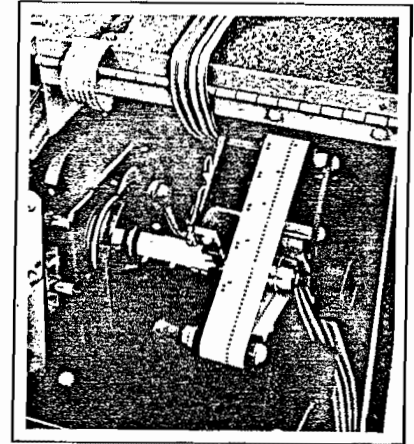

Figure 3
- d. Slip tape over Vertical Forms Positioning Knob and into slot in read head, with tape encircling both roller on Tensioning Arm, and Sprocket Drum (figure 3). Be sure that sprocket pins engage holes in tape.